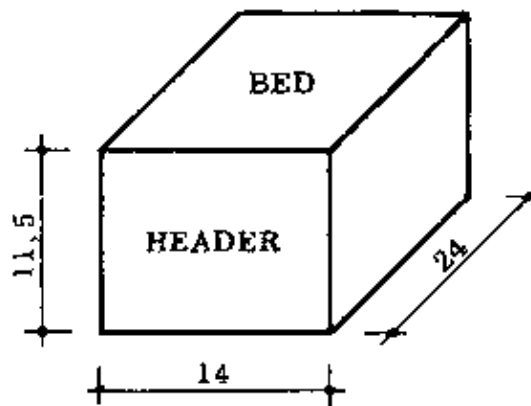

Fig. 3 SANDCRETE TRAINING BLOCK
– SANDCRETE TRAINING BLOCKS: These are specially made small sandcrete blocks with the approximate dimensions of 24 cm × 14 cm × 11, 5 cm; so they can be used to teach the making of more complicated bonds (Fig. 3).